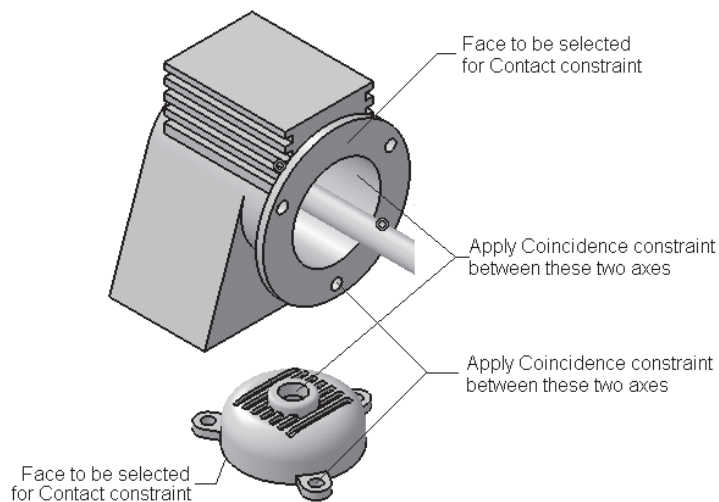

Figure 11-77 Various faces to be selected for applying the constraints
4. Apply another **Coincidence** constraint between one of the screw holes in the Cover and Motor. Various faces to be selected for applying these three constraints are shown in Figure 11-77. After all three constraints are applied, update the model to properly orient the cover in the Blower assembly.